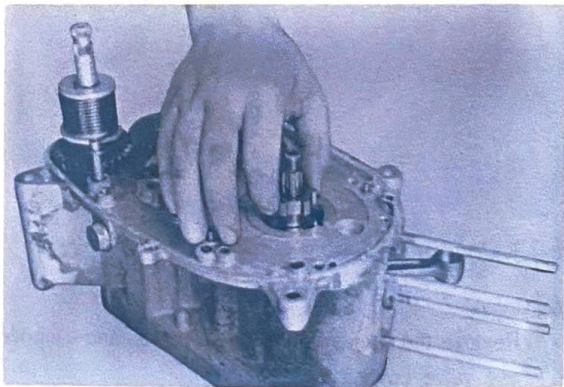

Fig. 3-13-4
1) Install the valve on the valve collar and check for looseness. If it is found too loose, replace it. If the collar is found to have step wear as shown in (Fig. 3-13-4) it should be replaced.